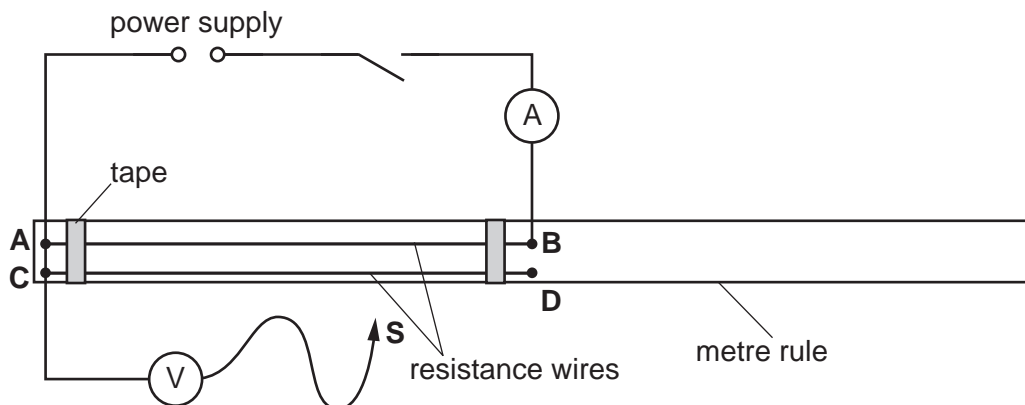

Fig. 1.1
- (iii) Ammeter capable of measuring the current in the circuit shown in Fig. 1.1 with a resolution of at least 0.02A. See note 3.
- (vi) Two lengths of approximately 51 cm of straight, bare constantan (Eureka) wire, diameter 0.45 mm (26 swg) or 0.38 mm (28 swg) or 0.32 mm (30 swg). The wires must be taped to a metre rule, or a half-metre rule, so that the wires are parallel, but not touching. Tape should be used only between the 3 cm and 7 cm marks and between the 43 cm and 47 cm marks. Label the rule with the letters **A**, **B**, **C** and **D** as shown in Fig. 1.1, with **A** and **C** at the zero end of the rule.
- (vii) Two suitable terminals (e.g. crocodile clips) attached to the constantan wires at **A** and **B**, 50 cm apart, so that connections can be made to the circuit shown in Fig. 1.1.
- (x) Sufficient connecting leads to set up the circuit shown in Fig. 1.1, plus an additional short lead suitable for connecting points **B** and **D**.
1. The circuit is to be set up for the candidates as shown in Fig. 1.1.
Check that the circuit is arranged as shown in Fig. 1.1.